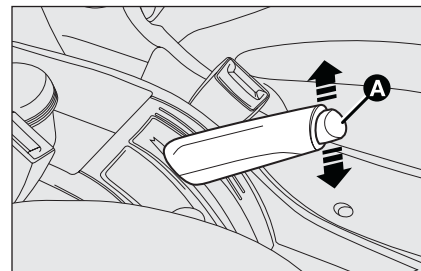

fig. 1
- ☐ slightly lift the handbrake and press release button **A**-fig. 1;